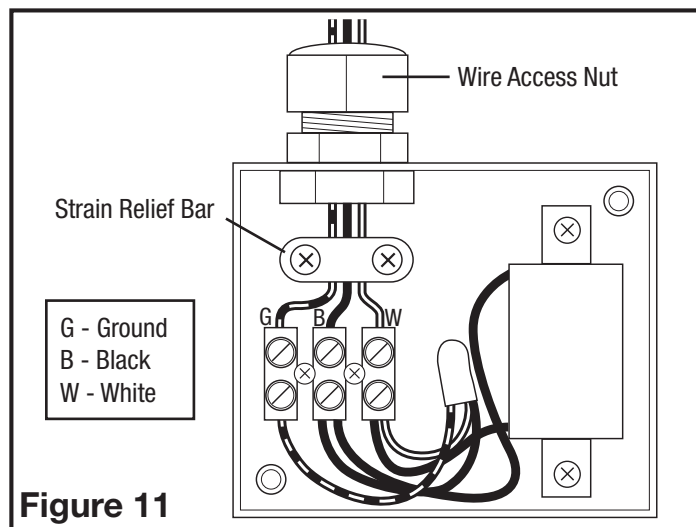

Figure 11
2. Run wiring from an approved wall switch carrying the appropriate rating. One neutral (white) one hot (black lead connected to the switch) and one ground (green or bare wire). Loosen the wire strain relief bar and run the wires through the wire access nut and the strain relief, making sure to leave enough wire to make all electrical connections (**Figure 11**).
3. Insert the white wire from the house into the terminal strip with the white wire and tighten using a small regular screwdriver. Insert the black wire from the wall switch into the terminal strip with the black wire and tighten using a small regular screwdriver. Insert the green (or bare) ground wire from the house into the terminal strip with the green wire and tighten using a small regular screwdriver (**Figure 11**).
4. Tighten the screws holding the strain relief bar in place. Also tighten the wire access nut. This will create a water-resistant seal (**Figure 11**).